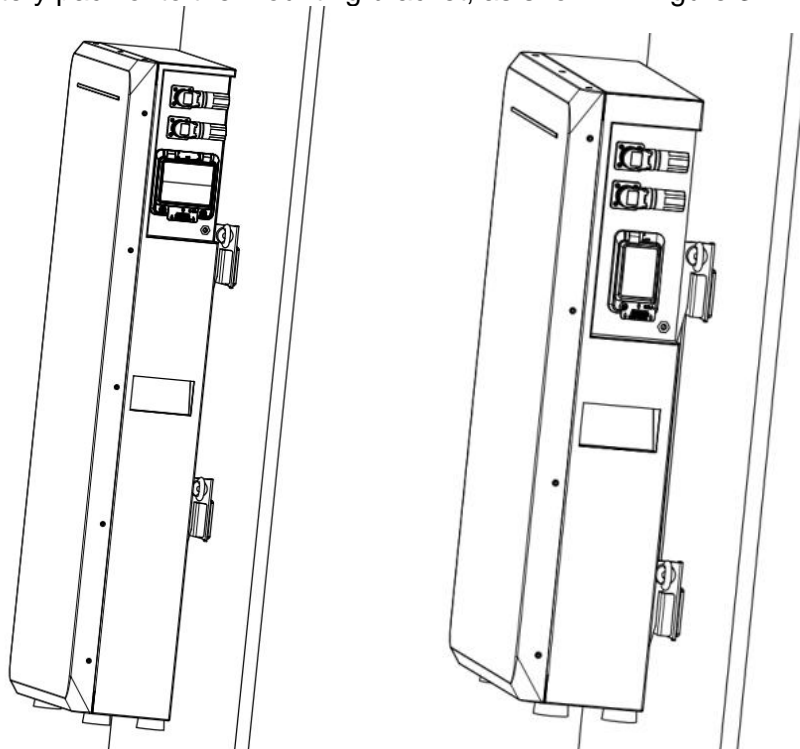

Figure 3-4
3) Secure the battery pack onto the mounting bracket, as shown in Figure 3-4.